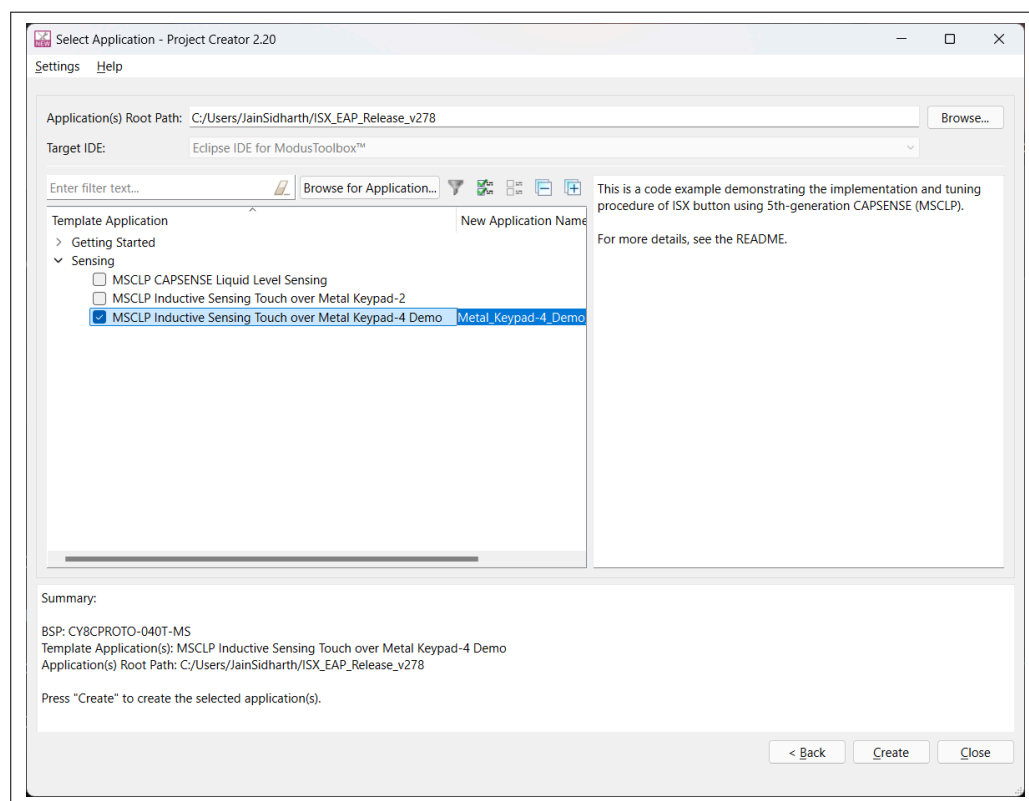

Figure 16 Creating a new application: Select Application
- d. Select the required application and click **Create**, as shown in Figure 16. The right pane will display the code example description and provide a link to view the README file on GitHub